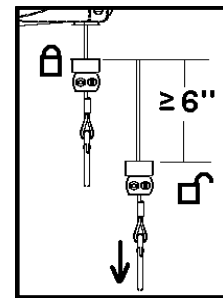

Fig. 09
- To release lock, pull out cable by at least 6" (160mm). [See - Fig. 09]